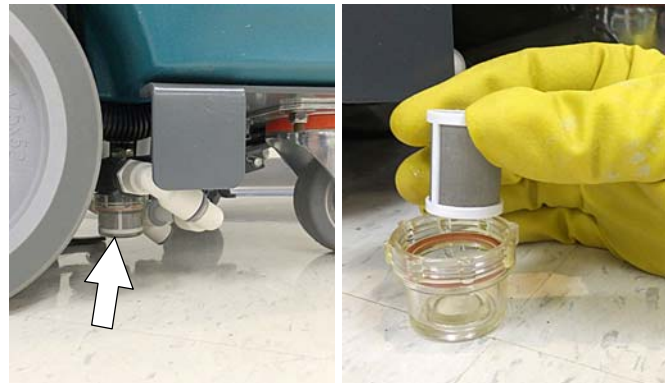

FIG. 51
- Remove the solution tank filter and clean screen after every 50 hours of use (Figure 51). Solution filter is located under machine at rear. Drain solution tank before removing filter.